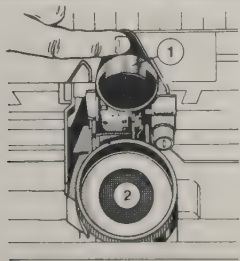

Fig. 9/1 Ink-jet print head
- Raise front cover lid. - Raise lid ① (Fig. 9/1) to prevent ink from being ejected onto the paper. - With the lid raised, press down evenly for 3 to 5 seconds on the membrane ② of the ink cartridge past the point where resistance is felt. - Release lid ① (springs back to home position).